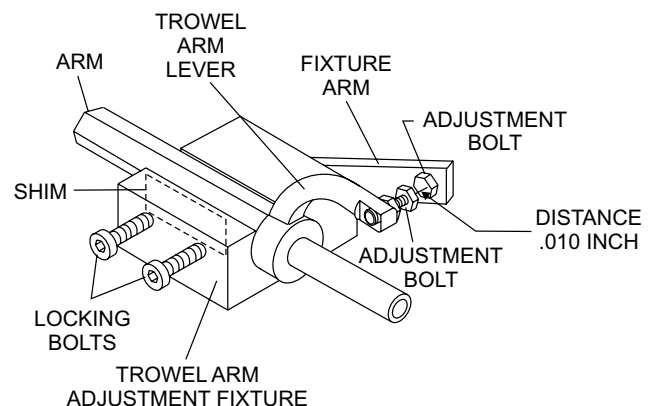

Figure 56. Trowel Arm Adjustment Fixture
3. Next, check the clearance between the round shaft and the test surface as one of the flat hex sections of the arm rests on the test surface. Rotate the arm to each of the flat hex sections and check the clearance of the round shaft. Use a feeler gauge (Figure 56) of .005 inch (0.127 mm). Each section should have the same clearance between the round of the trowel arm shaft and the test surface.
1. Unscrew the locking bolts on the adjustment fixture and place the trowel arm (lever attached) into the fixture channel as shown in Figure 56.
5. Adjust the bolt distance shown in Figure 56 to match one of the arms. The other arms will be adjusted to match this distance.